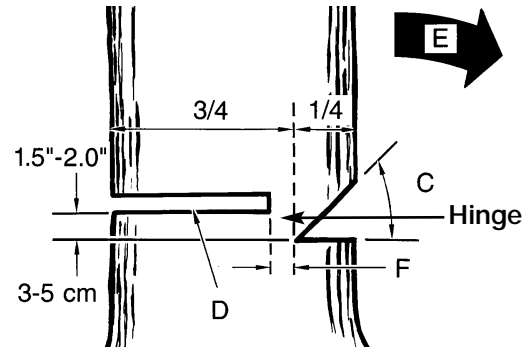

Fig. 13
Normally felling consists of 2 main cutting operations, notching (C) and making the felling cut (D) (Fig. 13).
Start making the upper notch cut (C) on the side of the tree facing the felling direction (E). Be sure you don't make the lower cut too deep into the trunk (Fig. 13).
The notch (C) should be deep enough to create a hinge (F) of sufficient width and strength. The notch should be wide enough to direct the fall of the tree for as long as possible (Fig. 13).
Make the felling cut (D) from the other side of the tree and 1.5 - 2.0 inches (3-5 cm) above the edge of the notch (C) (Fig. 13).